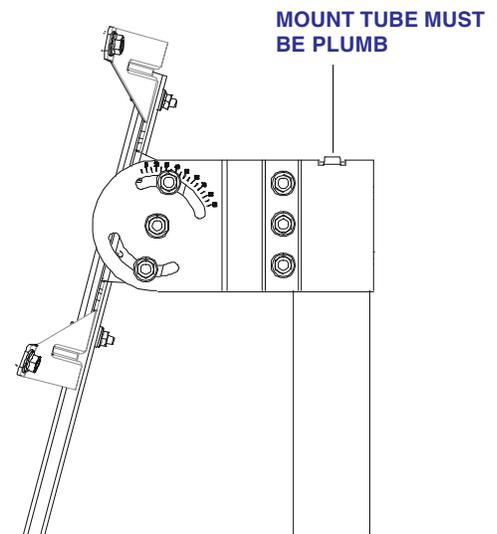

FIGURE 7
STEP 8: Adjust elevation for your look angle. See Figure 7.